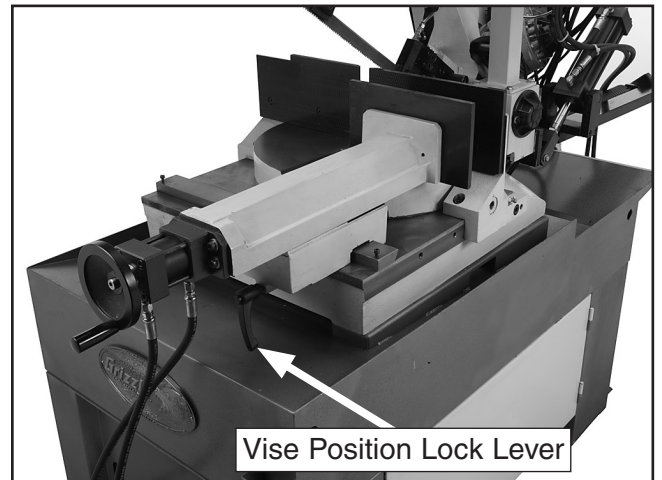

Figure 26. Positioning Vise.
4. Loosen the vise position lock lever and slide the vise assembly to the right side of the saw table (Figure 26).